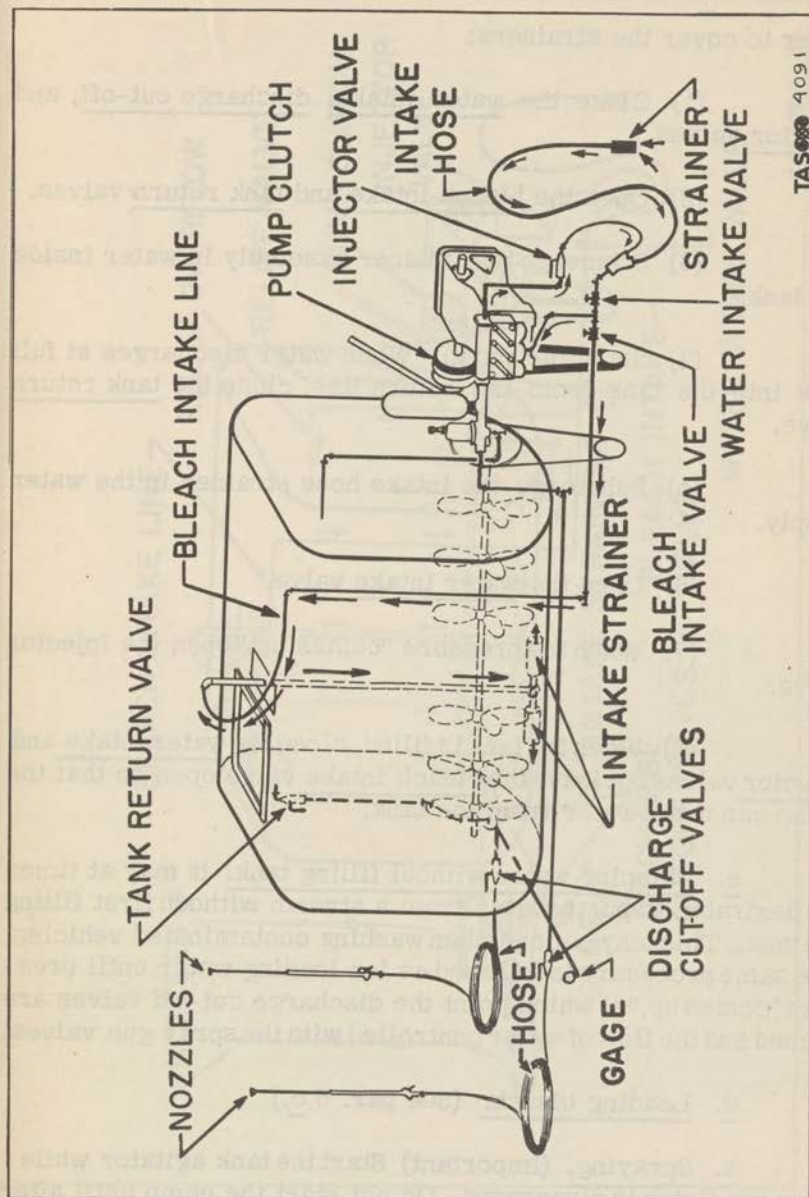

Figure 46. Arrangement of Valves and Flow of Water When Filling Tank Through the Suction Hose.
11. OPERATION. a. Loading water. The arrows on the diagram below (fig. 46) show the flow of water through the pipes and hose when filling the tank by means of the injector. It is not necessary to prime the pump if the plunger packing cups and valves are in good condition. The following is the correct procedure for filling the tank through the intake hose.